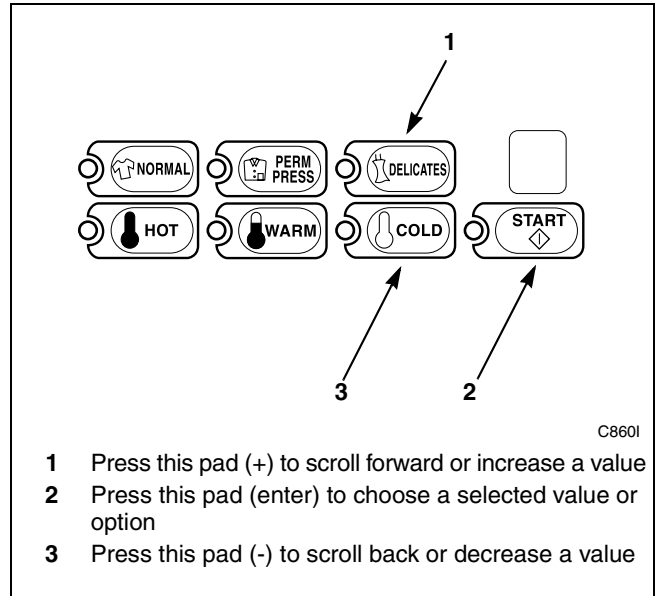

Figure 146
5. Press the DELICATES (+) or the COLD (-) keypad to increase or decrease the current number of minutes displayed in the VFD to the desired number of minutes. Refer to *Figure 146*.
**NOTE: The Permanent Press Extra Rinse Agitate Time can be set from zero (0) to 15 minutes.**